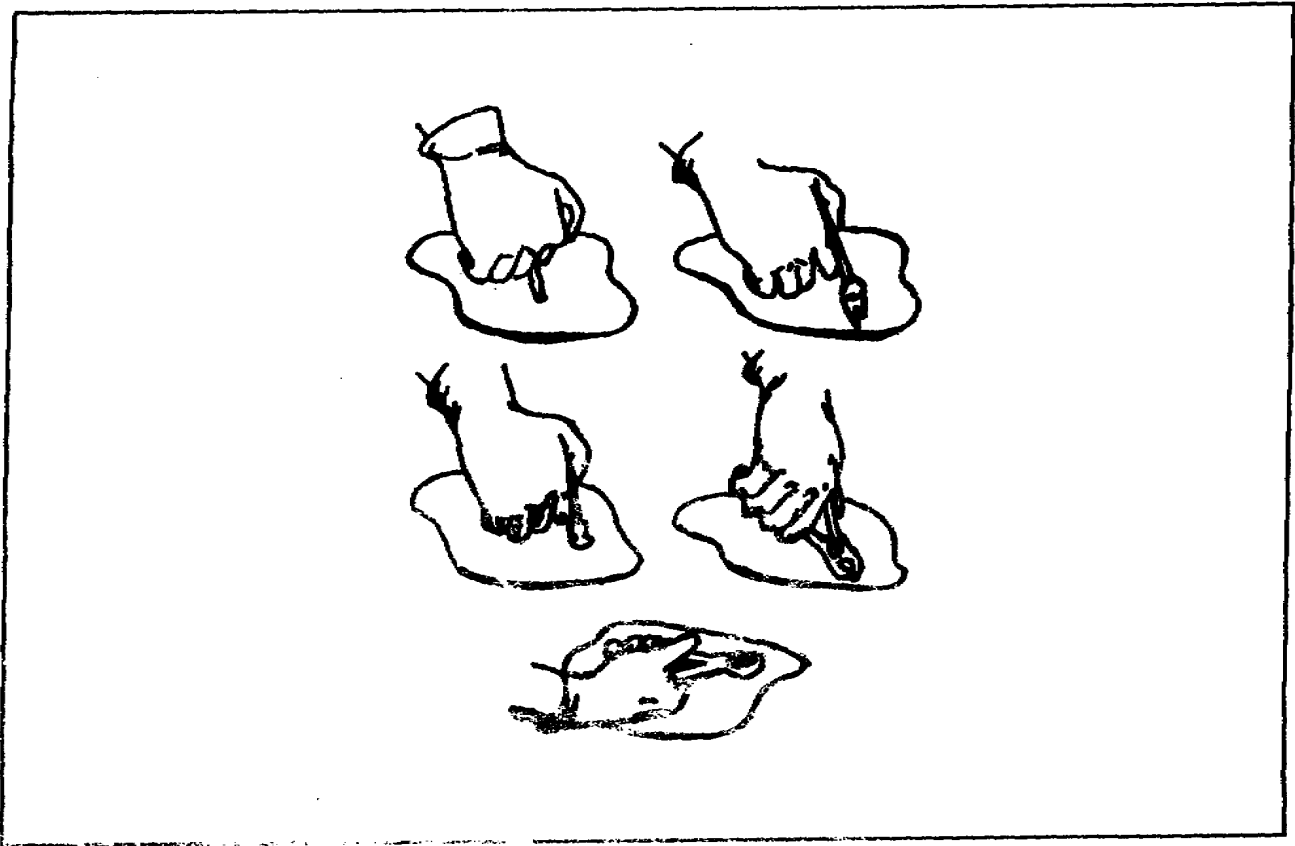

Figure 1-14. Application of sealing plugs
a. Sealing Plugs. Use a sealing plug if the hole in the tank is three-eighths of an inch or smaller. Figure 1-14 and the following steps show how to repair a tank with a sealing plug: